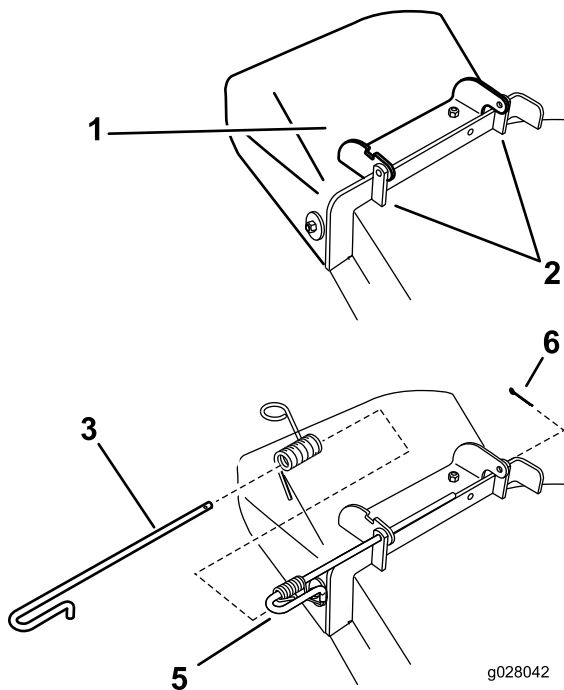

Figure 77
1. Remove the cotter pin from the end of the rod (Figure 77).
deflector (Figure 77). Remove the damaged or worn discharge deflector.
- Position the new discharge deflector with the bracket ends between the welded brackets on the deck as shown in Figure 77.
- Install the cotter pin into the end of the rod (Figure 77).